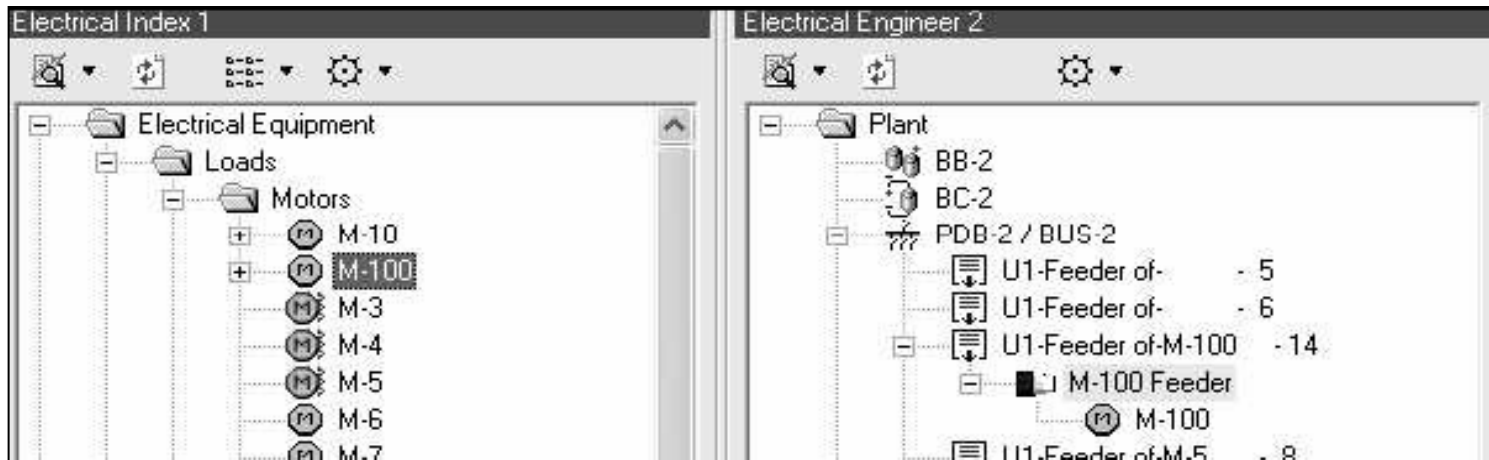

Figure 2
- Create M-100, apply a profile on it so to create a power cable and a control station and connect it to a Feeder circuit, as shown in the Figure 2